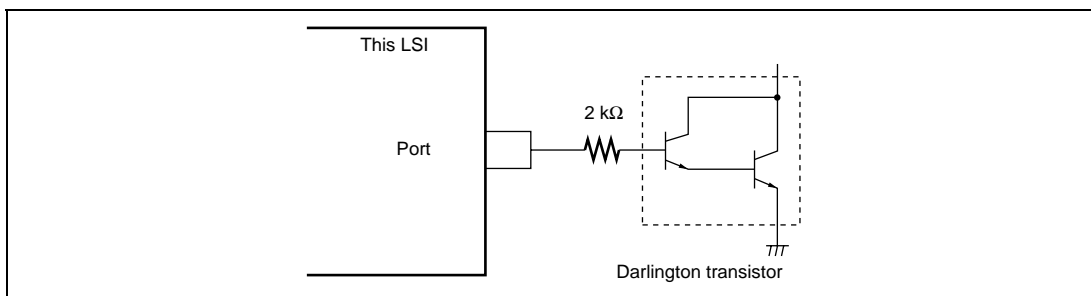

Figure 24.1 Darlington Transistor Drive Circuit (Example)
2. When driving a Darlington transistor directly, always insert a current-limiting resistor in the output line, as shown in figure 24.1.